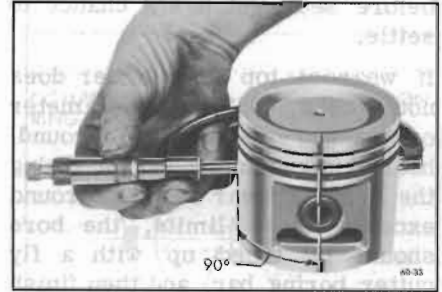

Figure 60-130—Measuring Piston
The pistons are cam ground, which means that the diameter at the right angle to the piston pin is greater than the diameter parallel to the piston pin. When a piston is checked for size, it must be measured with micrometers applied to the skirt at points 90° to the piston pin. See Figure 60-130. The piston should be measured (for fitting purposes) 1/4" below the bottom of the oil ring groove as illustrated.
Before the honing or reboring operation is started, measure all new pistons with micrometer contacting at points exactly 90 degrees to piston pin (Figure 60-130) then select the smallest piston for the first fitting. The slight variation usually found between pistons in a set may provide for correction if the first piston has excessive clearance.
2. Measure the piston to be installed. See Figure 60-130. The piston must be measured at right angles to the piston pin 1/4" below the oil ring groove. The piston must be between .001" and .0015" smaller than the cylinder bore.